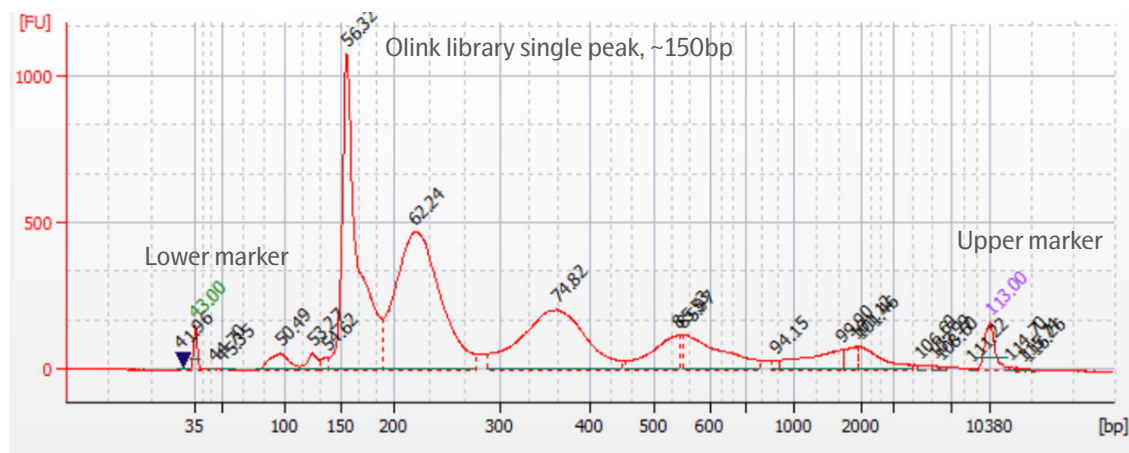

Figure 18. Bioanalyzer's electropherogram.
7. After the incubation, place the BP Tubes on the DynaMag™-2 Magnetic stand and leave them for 2 minutes to separate the beads from the solution (*Figure 18*).